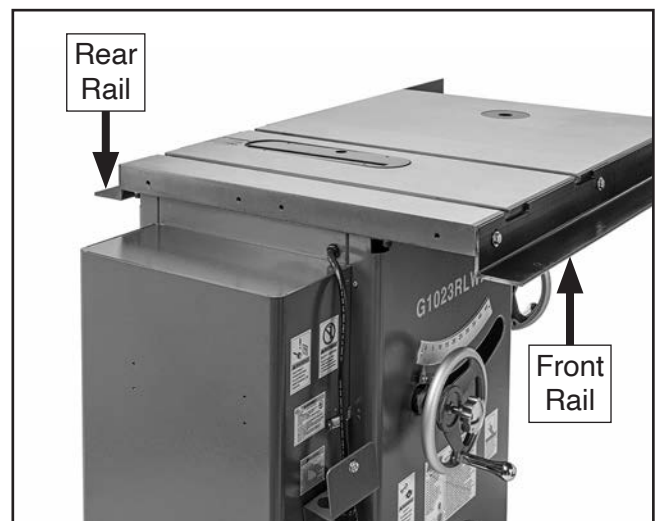

Figure 6. Cut rails installed on saw table.
7. Lightly file cut edges until smooth, then re-install rails on saw table using fasteners removed in **Step 5** (see **Figure 6**).